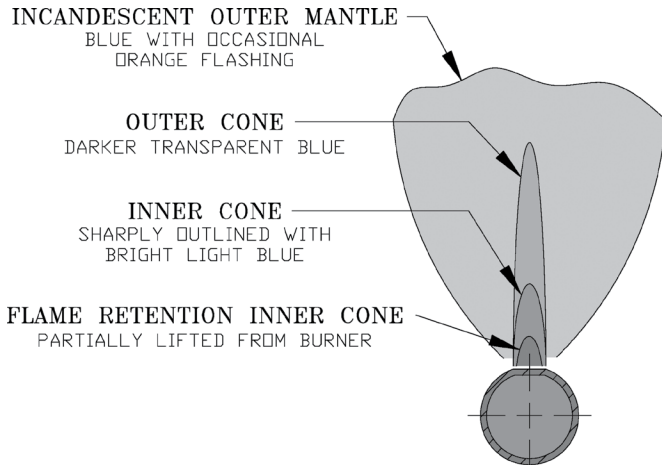

Figure 10-5: Main Burner Flame
10. Check Main Burner Flame (see Figure 10-5).